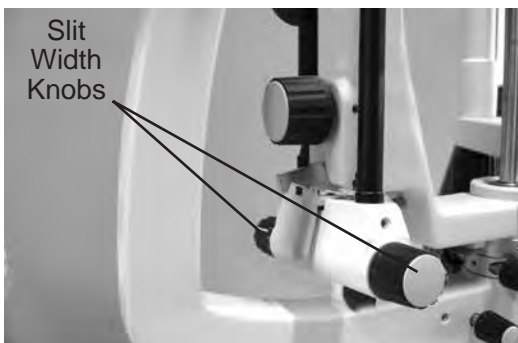

Figure IN-7 Slit Width Adjustment
14. The slit width can be adjusted by rotating the Slit Width Knobs. Refer to Figure IN-7.